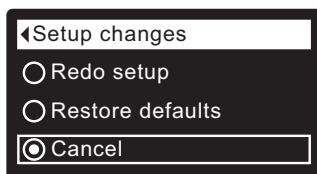

FIG. 34
1. From any of the rolling status screens, press the SELECT (O) button to display the **Main menu**.
3. Press the SELECT (O) button to display the Advanced settings menu.
5. Press the SELECT (O) button to display the Troubleshooting menu.
7. Press the SELECT (O) button to display the Setup changes menu (See Figure 34).
8. Press the RIGHT (►) button. The flashing padlock icon will disappear, as shown in Figure 34.
9. Press the SELECT (O) button.